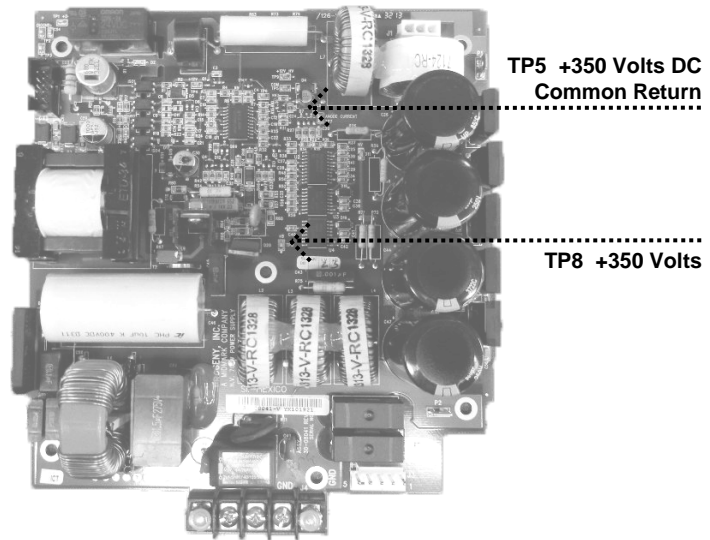

Figure 64
1. On the Power Supply Board, measure the voltage across TP5, the Common Return, and TP8, +350 volts DC, as shown in *Figure 64*. This voltage will be acceptable if measured between 330 and 390 volts DC. Values above or below this number indicate the need to replace the Power Supply Board.